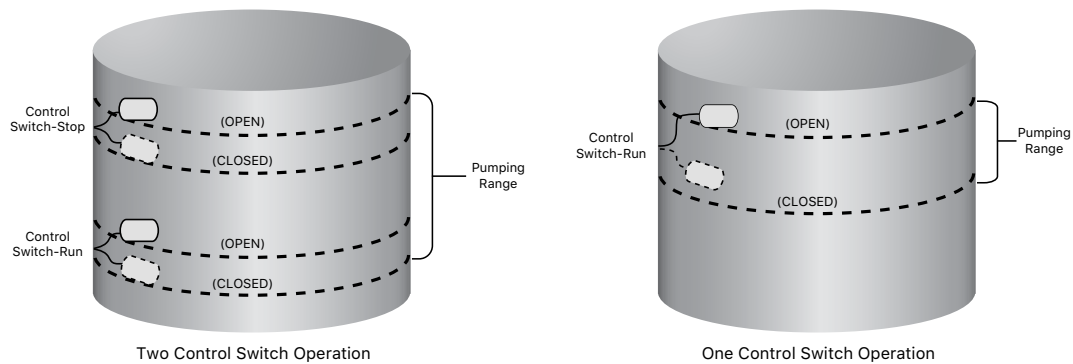

Figure 8: Control Switch Operations
2. Connect the cables from the “RUN” control switch to the Terminal Block labeled “RUN” (Figure 8).
The Photon™ Drive is designed to utilize up to two control switches for operation. When both switches are installed, the controller starts to pump and waits to shut off until both switches read “OPEN.” Once it shuts off, the controller then waits to run again until both switches read “CLOSED.” An example application (Figure 8) is to use separate level switches to indicate high and low water levels. When using two switch inputs, remove the jumper (on “J8” pins) located immediately above these switch inputs.
Alternatively, the Photon™ Drive may be configured to control water level by using a single input switch. Once properly configured for a single active input with a control switch installed, the controller starts to pump and waits to shut off until the active switch reads “OPEN.” Once it shuts off, the controller then waits to run again until the switch reads “CLOSED.” An example application (Figure 8) would be to use a single contact level switch that keeps the storage tank as full as possible without overflowing. For single level switch control, use only the “RUN” terminal connections. Leave the jumper in place (over “J8” pins), located immediately above these switch inputs.